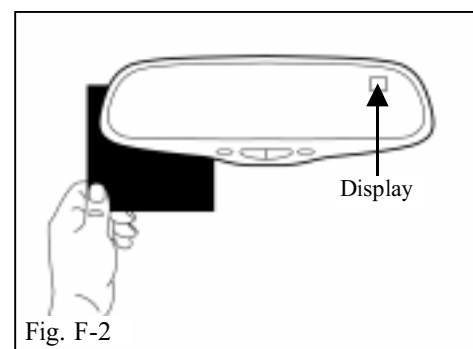

Fig. F-2
- i. To make sure the auto-dimming feature is on, verify that the green LED to the right of the switch is on. If it is not on, push the 'Mirror' button to turn it on. (Fig. F-2)
- ii. Cover (using dark cloth or towel) the forward-looking photocell located below the wire harness connection on the back of the mirror. (Fig. F-2)